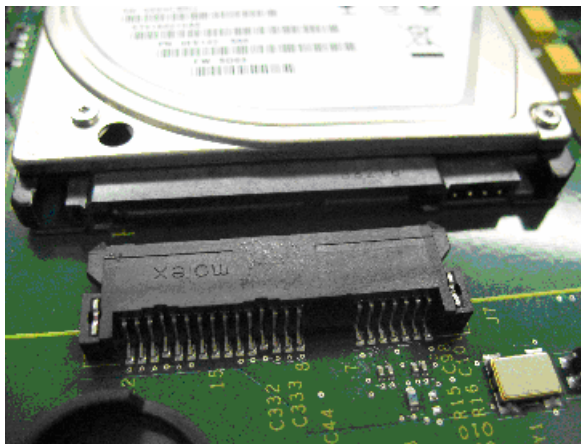

Figure 169: CP MG card hard drive connector
4. Place the replacement hard drive on the CP MG card and slide the replacement hard drive into SATA connector J7. See Figure 169: CP MG card hard drive connector on page 602.